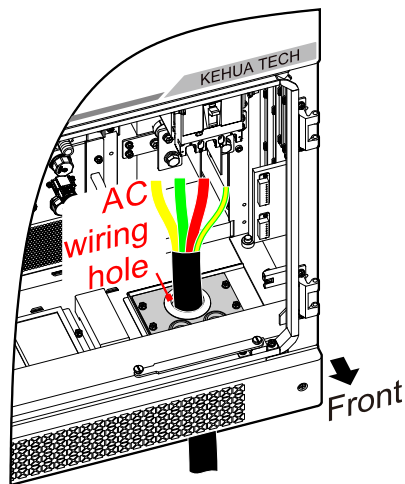

Figure4-14 AC wiring hole diagram
Step 3 Lead the AC output cables go through the bottom wiring hole (as shown in Figure4-14).